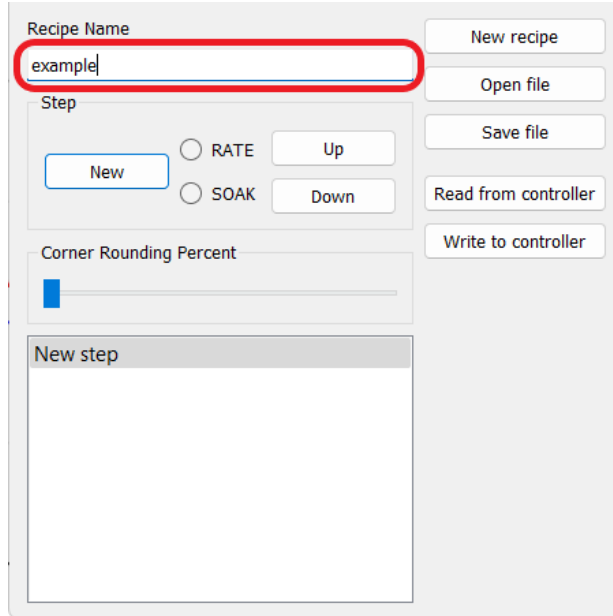

Figure 71: Recipe Editor – 'Recipe Name' Field
2. Name your recipe by entering a name of your choosing in the 'Recipe Name' field highlighted in Figure 71 below. It is best to avoid special characters when creating recipe names such as `~!@\$^*/\+=` as an example. However, dashes (-) underscores (_) hashtags (#) and ampersands (&) are okay to use freely.